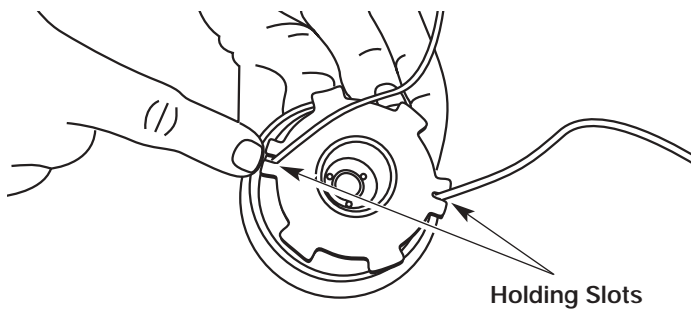

Figure 19
- Insert the ends of the line into the two holding slots. See Figure 19.